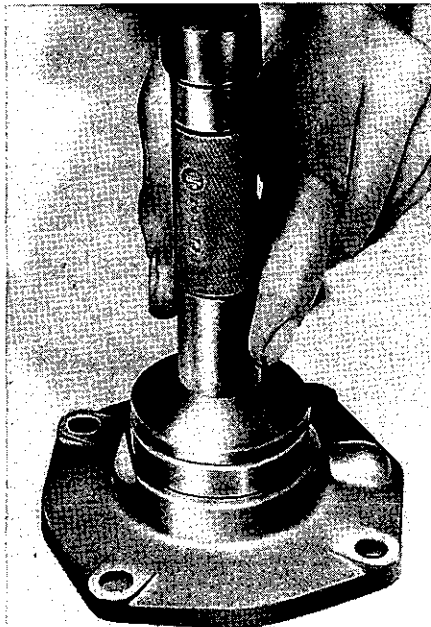
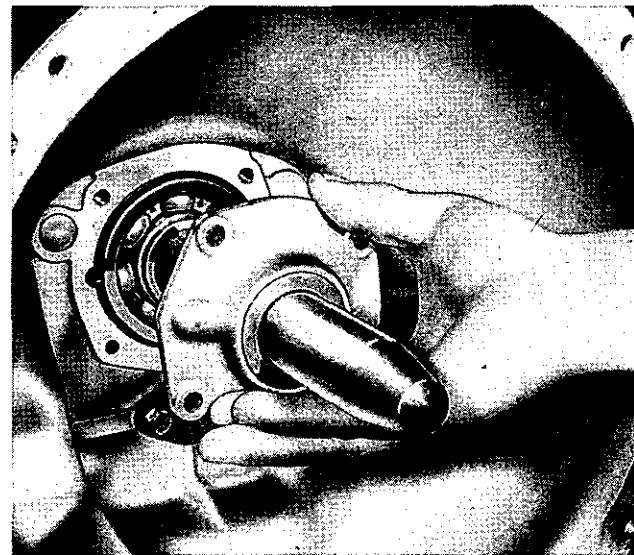
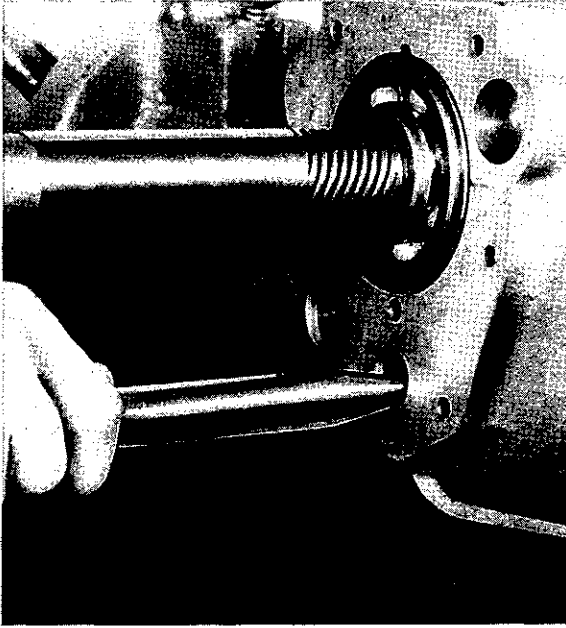

Fig. 28. Fitting front cover oil seal with Churchill Tool No. 20SM-73
Fig. 29. Fitting front cover and oil seal with special adaptor, Churchill Tool No. 20SM-47
Fig. 30. Showing pilot tool for aligning countershaft gears and rear thrust washer—Tool No. 20SM-76
18. Having fitted front cover oil seal, as shown in Fig. 28, apply cover and packing, utilizing a fitting tool to protect the oil seal as shown in Fig. 29. Fit four setscrews and plain washers with lead wire, after positioning the
20. Utilize a pilot to align thrust washer and countershaft gear, as shown in Fig. 30, driving out needle roller retaining tube and countershaft, which was fitted to position forward thrust washer, with pilot, subsequently ejecting the pilot tool with the actual countershaft. It is important, when carrying out this operation, that the pilot spindle should maintain contact with the retaining tube or countershaft, as appropriate, throughout the operation, alternatively there is danger that the needle rollers may leave their recess.
be necessary to remove the gearbox and withdraw the front cover and to fit a new oil seal with the tool shown in Fig. 29 and to use protective sleeve, shown in Fig. 30, when replacing cover.